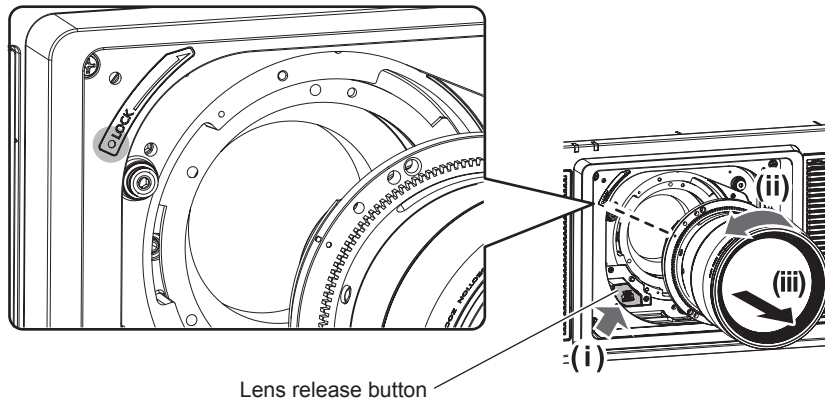

Fig. 1
- 2) Remove the projection lens by turning it counterclockwise while pressing the lens release button. (Fig. 1)**